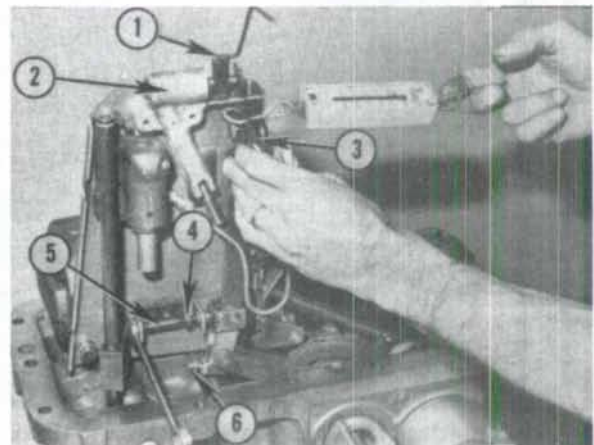

Fig. 200—View showing adjustment of draft control linkage. Refer to text for procedure.
On all models, install a wedge (1—Fig. 200) to hold dashpot plunger in fixed position against vertical lever. Loosen position control adjusting screw (6) just